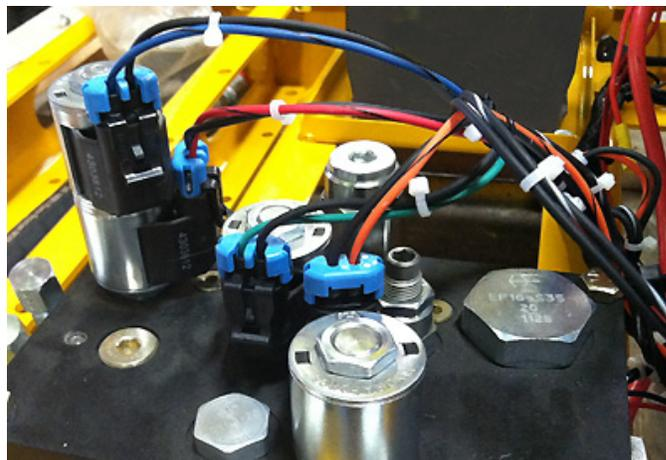

Figure 3
7. Verify all other electrical connections have not come loose or detached during shipment (Figure 3).